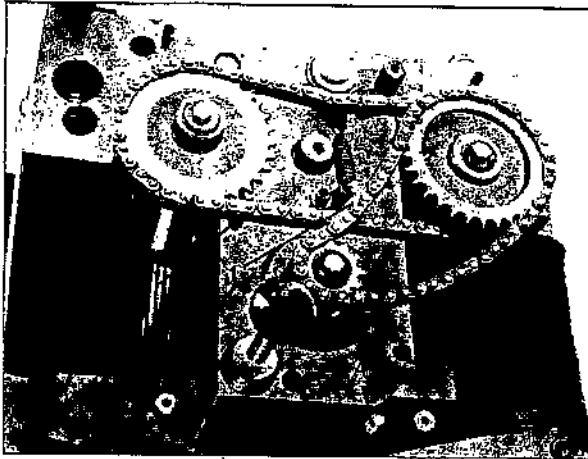

Fig. 4
1. Remove the drain plug (A), Fig. 4 and filler Cap (B), Drain dirty oil thoroughly.
2. Tighten the drain plug (A).
3. Fill with clean lubricant through hole (B).
4. Tighten the filler cap (B).